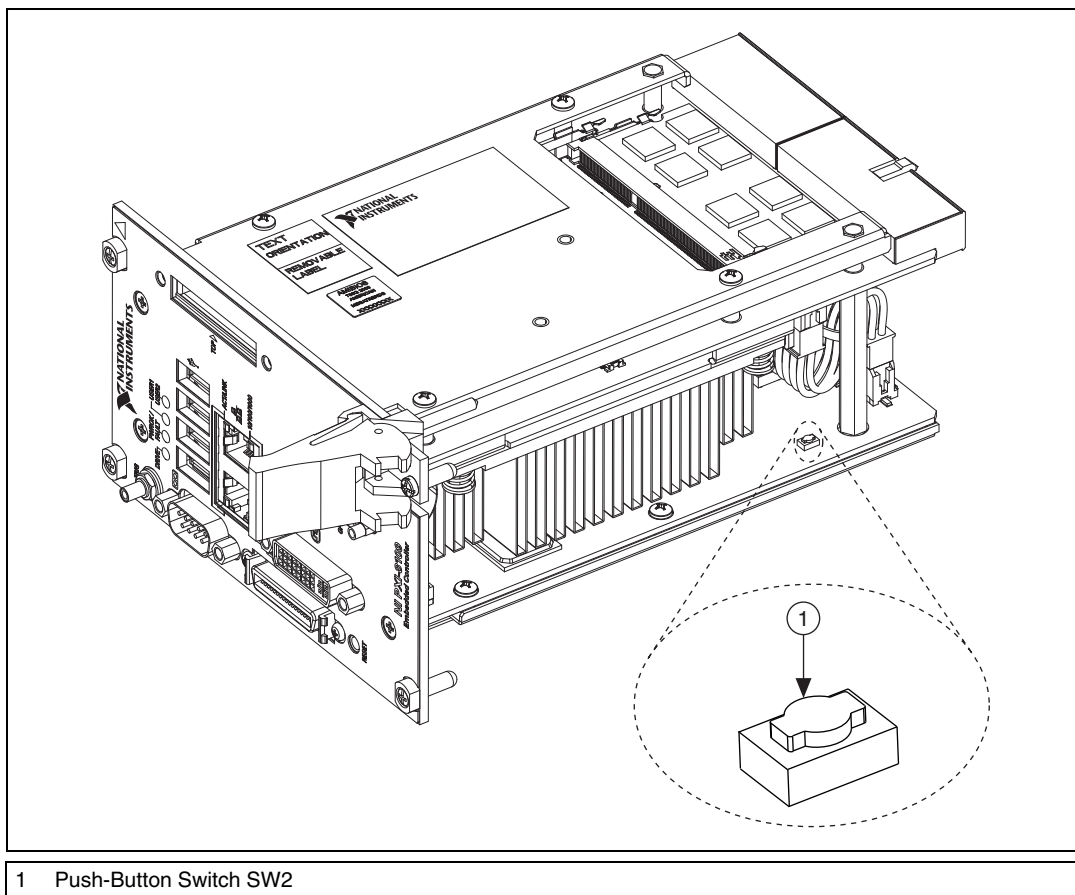

Figure 5-1. Clearing the CMOS Contents
3. Press the Clear CMOS button (SW2) as shown in Figure 5-1.